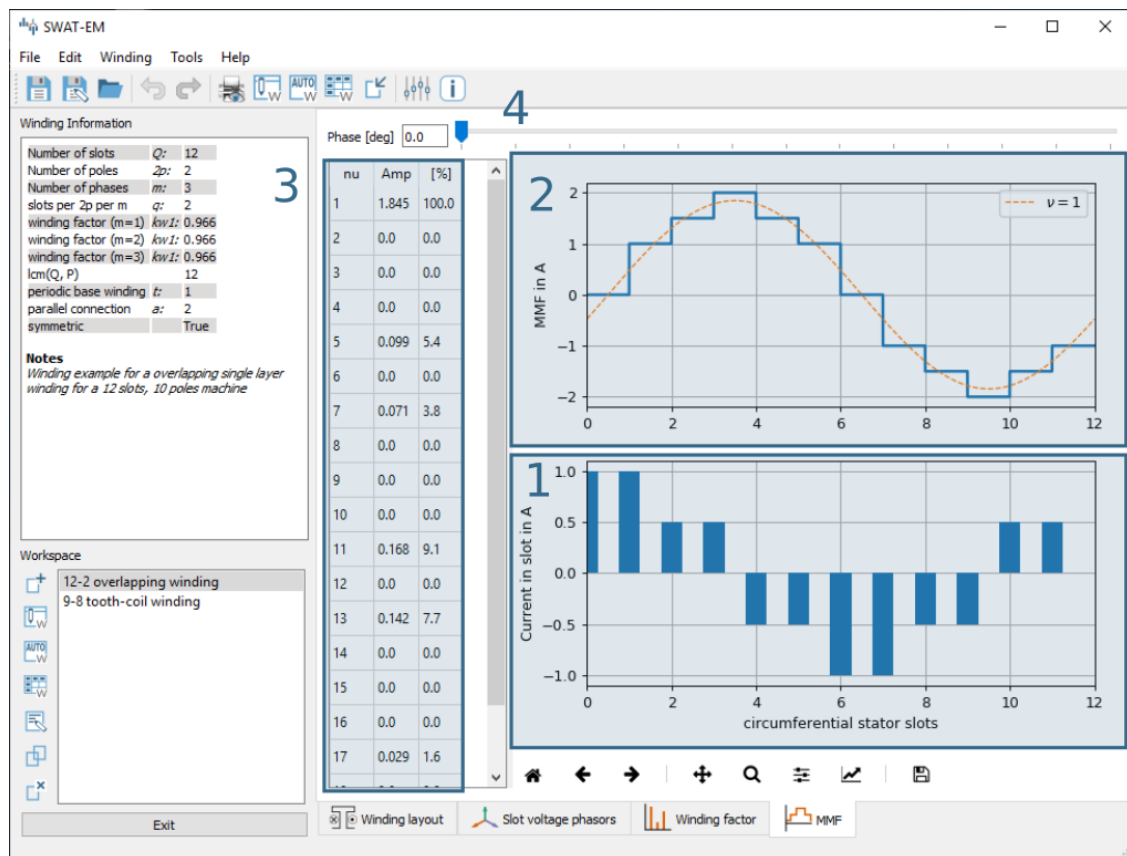

Figure 3.4: Plot of the ampere-conductor distribution and the Magnetomotive force (MMF)
Therefor the distribution of ampere-turns is coupled with number of slots. (1) in Figure 3.4 shows this for a winding example with  $Q = 12$  slots, so there are 12 bars. In reality the distribution has a width per bar which corresponds to the slot opening. However in theory (in this program) the distribution can be interpreted as infinitely thin peaks. The integral of this leads to the MMF
which is shown in (2) in figure 3.4. The waveform of the MMF corresponds to the magnetic field, that is generated in the airgap by the winding. For further information consider the literature (eg [2]). The plot also shows the fundamental and some of the harmonics. The number of harmonics which are plotted can be defined relative to the fundamental. Please consider the "Tools"  $\rightarrow$  "Settings" dialog. The table (3) in the window displays the harmonic analyses of the MMF. With the slider (4) one can define the phase angle of the AC current system for the MMF plot. Note that the phase angle has no effect on the harmonic content of the MMF, so the harmonic analyses is independent from it.